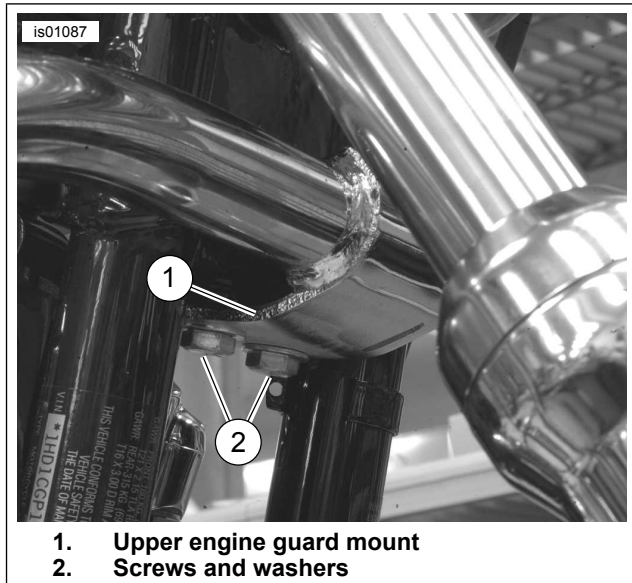

Figure 3. Mount Upper Section of Engine Guard
See Figure 3 noting that illustration does not show the horn mounting bracket.
4. Figure 3 illustrates mounting without horn bracket and horn in place. Place flat washers on screws. Obtain horn bracket with horn if present. While holding engine guard and horn bracket in place at upper crossmember, install screws with washers (2) through horn bracket, upper engine guard mount (1), tie-link mounting bracket and thread into holes in upper frame crossmember. Tighten just enough to hold the assembly snug and in place.